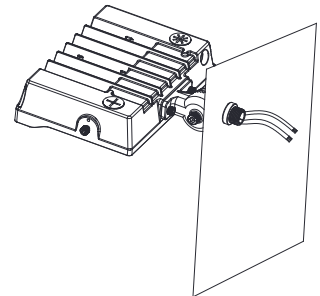

Fig 1.5
Step 2: Loosen screw, adjust fixture angles as per actual demands and tighten screws later. angles of the fixture is adjustable (pass the bracket through mounting surface, fix it with screws, then connect the wires as per proper wiring requirement. Figure 1.5